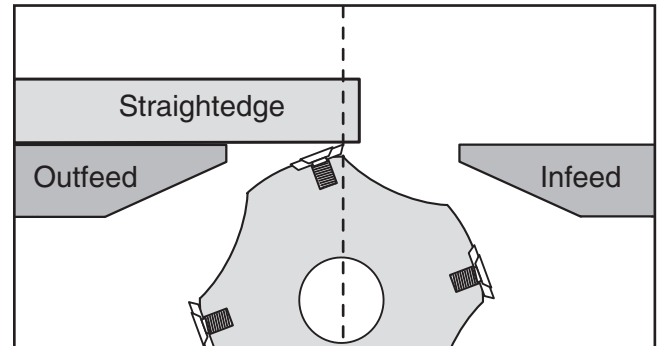

Figure 44. Outfeed table even with cutter at top dead center.
4. Place a straightedge across the outfeed table and just over the cutter positioned at top dead center (the straightedge should not extend over the infeed table during this procedure; see **Figure 44**).
When correctly set, the cutter will barely touch the straightedge, as shown in **Figure 44**.
8A. (Standard Procedure) Use the outfeed table handwheel to set the outfeed table height so that the cutting insert at top dead center barely touches the straightedge, as illustrated in **Figure 44**.